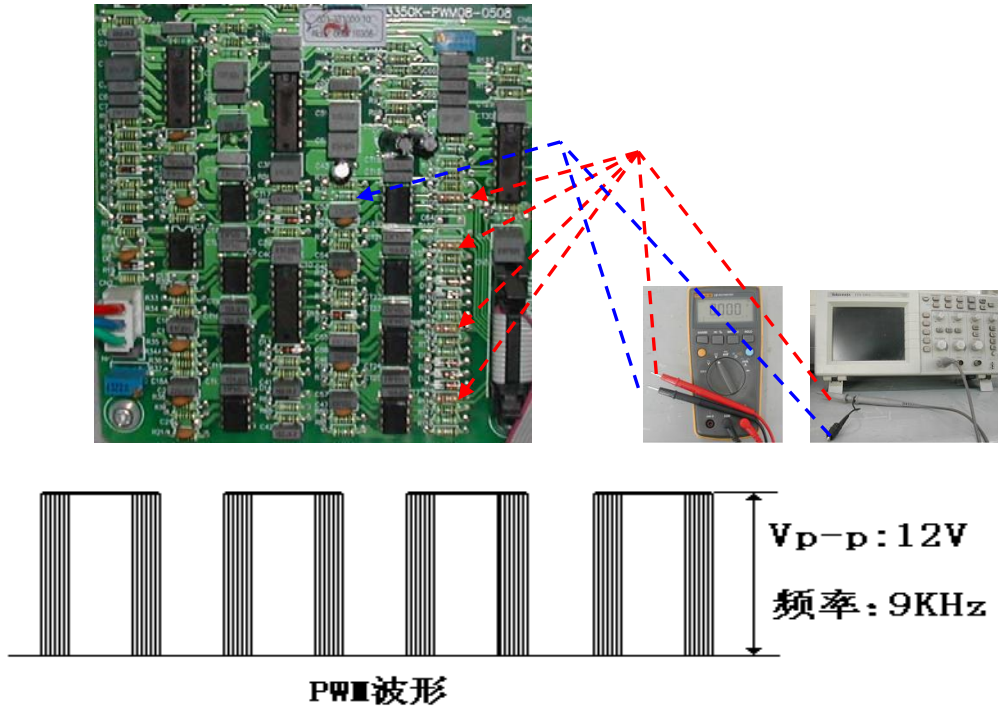

Figure 5-15 PWM board SPWM signal test and waveform
D. Test left pin of R113, R115, R104, R107 of the three PWM board, the waveform is SPWM wave, its V_{p-p} is $12 \pm 1V$, as shown in figure 5-15. It can be tested with a multimeter, the value is $6.2 \pm 0.2V_{ac}$, $6.2 \pm 0.2V_{DC}$.